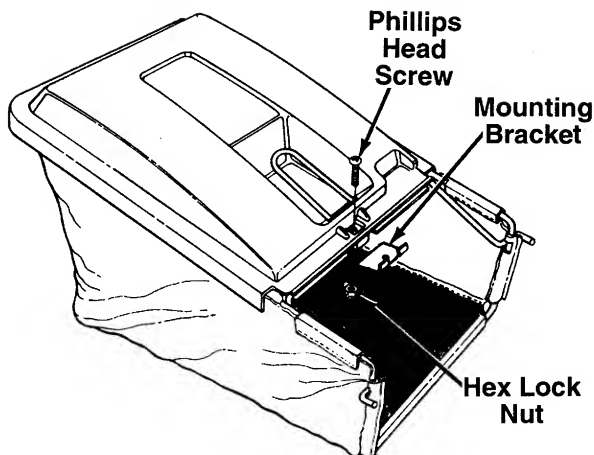

FIGURE 12.
6. Place the mounting bracket under the front of the handle, with the tabs on the bracket facing up. Insert phillips head screw down through the hard-top cover and mounting bracket. Secure with hex lock nut. See figure 12.